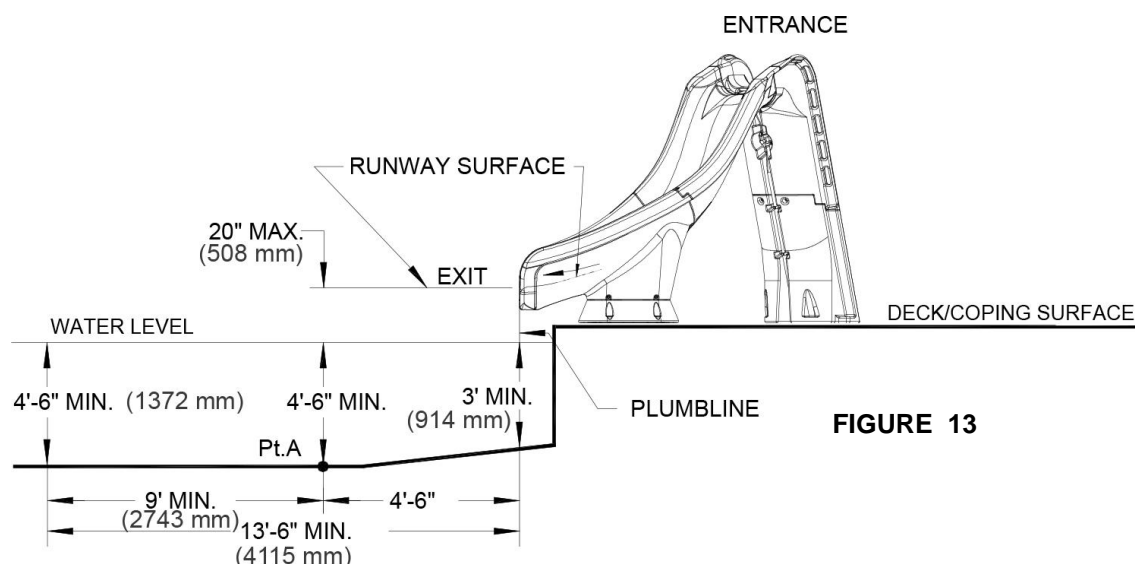

FIGURE 13
1. The critical dimensions for placement of the TYPHOON® are as shown in FIGURES 13 and 14.
- A. The slide exit runway surface shall not exceed 20" (508 mm) above the water surface as shown in FIGURE 13.
- C. The minimum depth of water below the exit lip of the slide shall be 3' (914 mm) and increase to 4'-6" (1371 mm) at Pt. A, which is a distance of 4'-6" (1371 mm) from the exit lip of the slide as shown in FIGURE 13.
- D. A minimum depth of 4'-6" (1371 mm) shall be maintained at a distance of 9' (2743 mm) along the extended centerline of the slide from Pt. A. as shown in FIGURE 13.